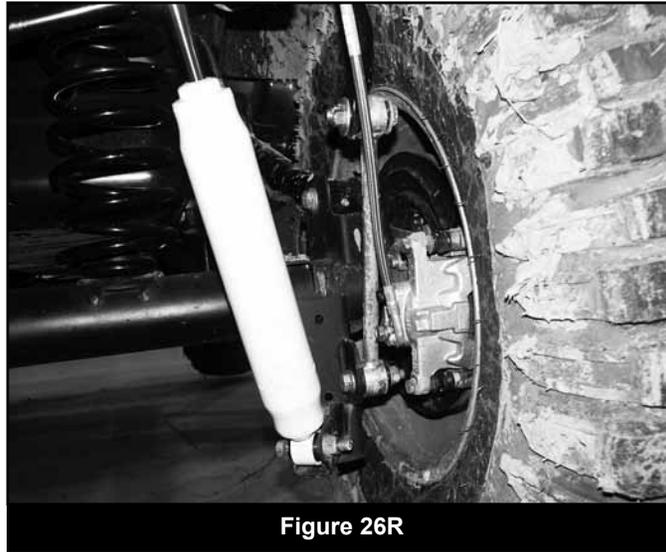

Figure 26R
51. Grease and install the 5/8 ID hourglass bushings (SB58BK) and 12mm ID x 1.375 long sleeves (62147) into the provided links (92025). Attach sway bar links to axle with OE hardware and at the sway bar with new 12mm bolts, nuts and washers (BP758). Run the upper bolt from the outside in for wheel clearance. The links will mount to the outer surfaces of the sway bar and axle mount tab (Fig 26R)